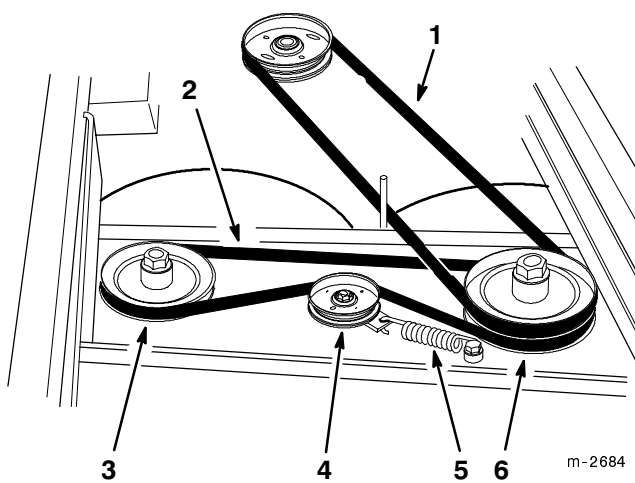

Figure 26
2. Grease the fittings on both spindle bearings (Fig. 26).
4. Disconnect the idler arm spring to relieve tension on the idler pulley, then remove the worn deck belt (Fig. 26).
5. Install the new deck belt around the right spindle pulley, around the inside of the idler pulley, then around the lower pulley on the left spindle (Fig. 26).
6. Reconnect the idler arm spring (Fig. 26).